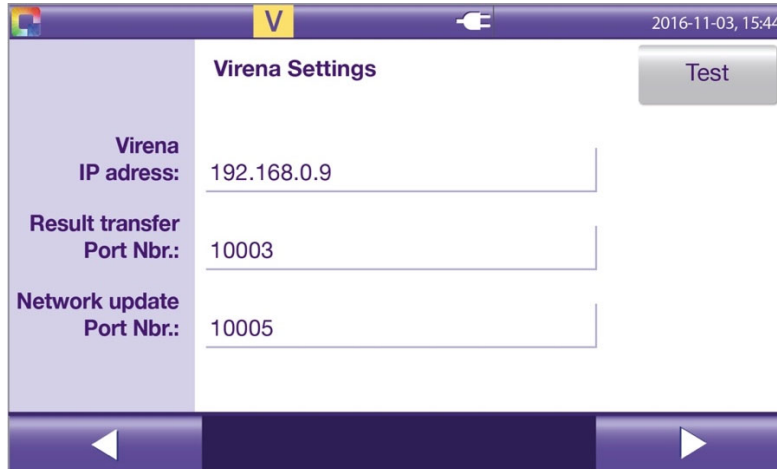

Figure 28
- Type in **Virena IP address** (Figure 28).
- If desired, touch the **Test** button to test the Virena connection. A pop-up window will provide information on the Virena Test status. **Note:** When Virena is activated and Solana has unsent results, a “V” highlighted in yellow  is displayed in the top banner (Figure 28).